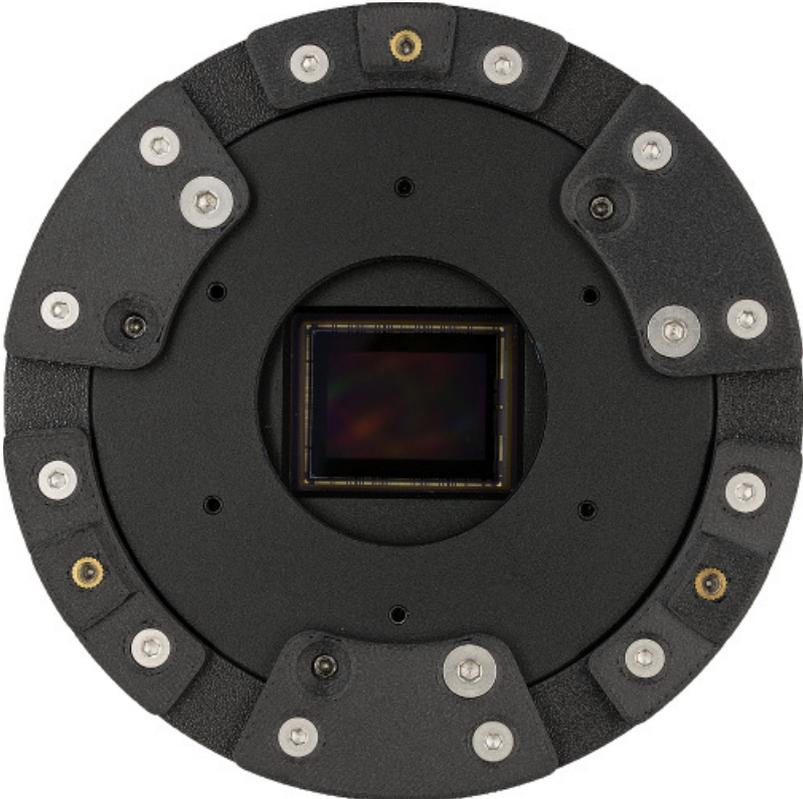

fig. 33
7. Remove one M4x8 screw from the last tab and screw the third headless screw in its place. After this step, the set should look as in fig. 33.